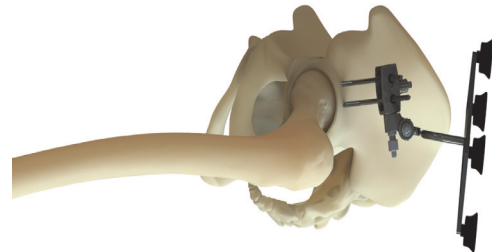

Figure 4. Intra-Incision Anterolateral Pelvic Array Placement
2. The bone pins should be 1 cm superior from the acetabular rim (excluding superior osteophytes if the labrum is ossified) (Figure 4).